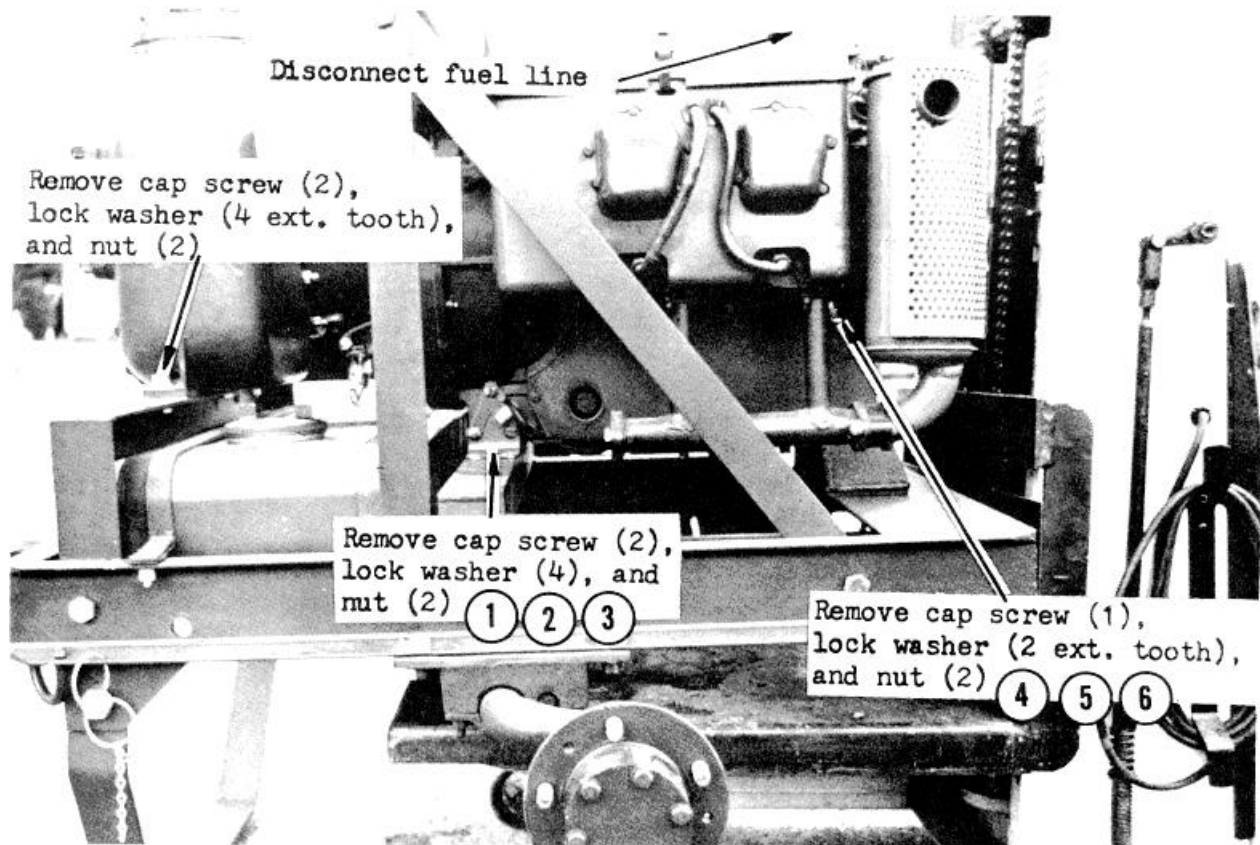

FIGURE 3-13. REMOVAL OF MAJOR COMPONENTS
- Removal - Refer to Fig. 3-13 and remove the engine. Remove the three cap screws, six lock washers, and three nuts which secure the front engine bracket to the frame.
2. Disconnect the fuel line (Fig. 3-13).
5. Refer to Fig. 3-13, remove the mounting hardware, and lift the engine and pump assembly from the trailer.
1. Position the engine and pump assembly on the trailer frame, and install the mounting hardware as shown in Fig. 3-13.
4. Connect the fuel line (Fig. 3-13).